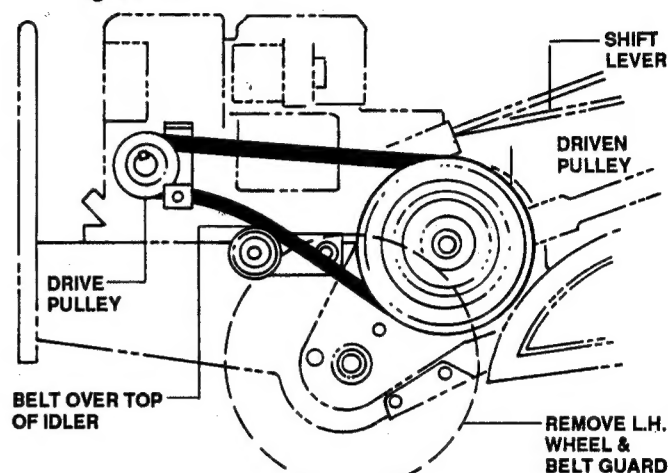

FIGURE 12
2. Remove two (2) $\frac{1}{2}$ " screws and nuts from guard.
4. Remove old belt and replace with new belt. Belt must be **OVER TOP** of **IDLER** and within **BELT GUIDE** for proper installation. See Figure 12.